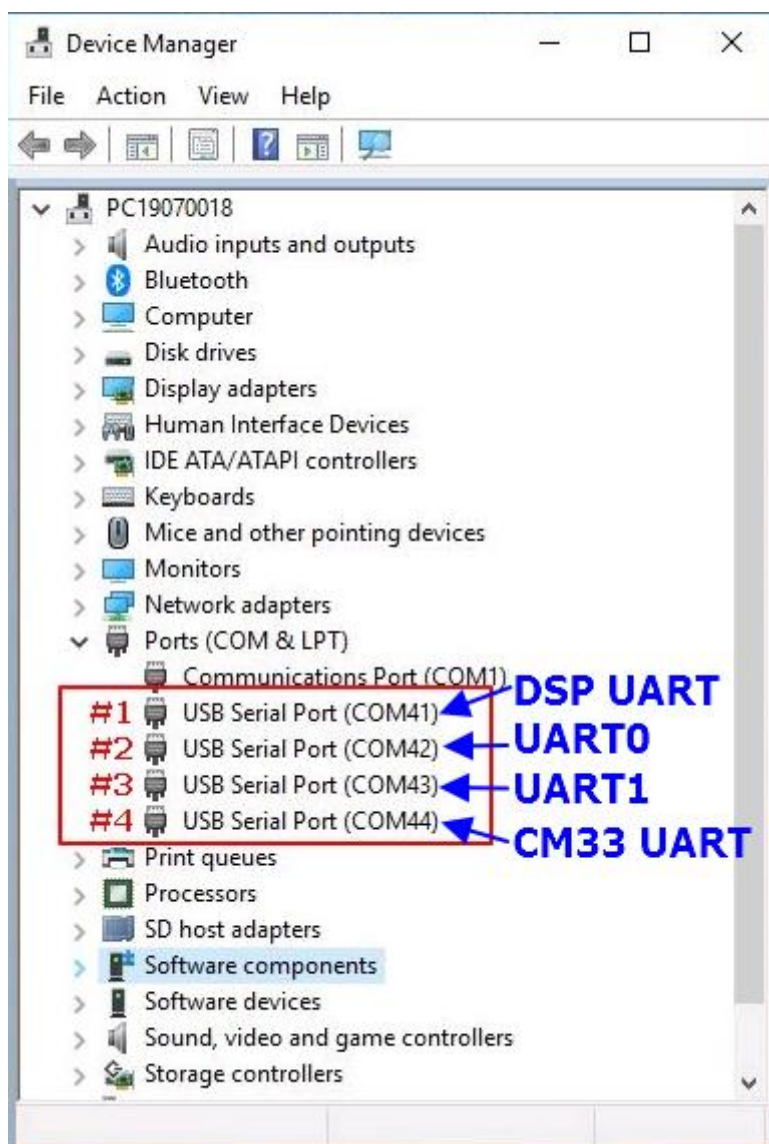

Figure 3. COM port associated with the MT7933 HDK
6. In **Device Manager**, navigate to **Ports (COM & LPT)** (see Figure 3).
7. A new **COM** device should appear under **Ports (COM & LPT)** in **Device Manager**, as shown in Figure 3. Note the **COMx** port number of the serial communication port. This information is needed to send command and receive logs from the COM port.
The com port numbers (**COMx**) are different at different PC. In order to check the function of each com port, you can recognize the order of these com ports. As Figure 3 shows, the first com port (#1) means “DSP UART”, the second com port (#2) means “UART0”, the third com port (#3) means “UART1”, and the fourth com port (#4) means “CM33 UART”.
4. Check the **Device Manager** at PC. There are 4 USB serial ports as Figure 3 shows.